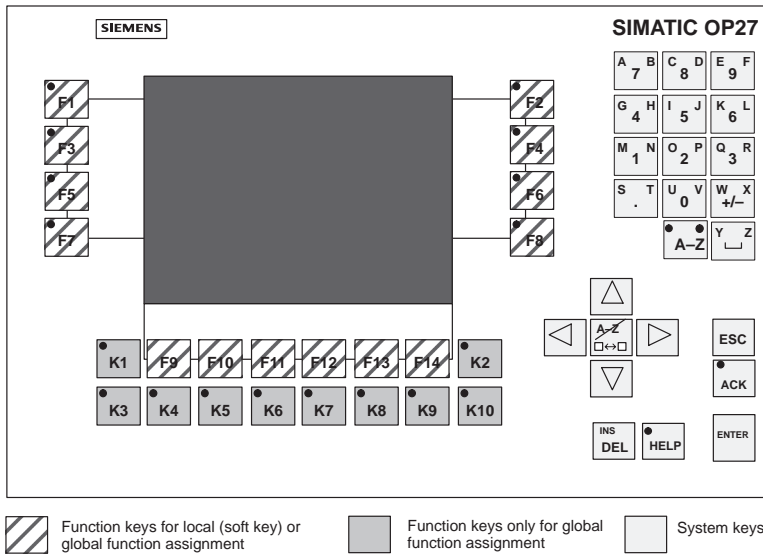

Figure 3-2 Arrangement of keypads on the OP27
- on the OP27 → K1 to K10 and F1 to F14 (Figure 3-2),
- on the OP27 → F1 to F14 (Figure 3-2),